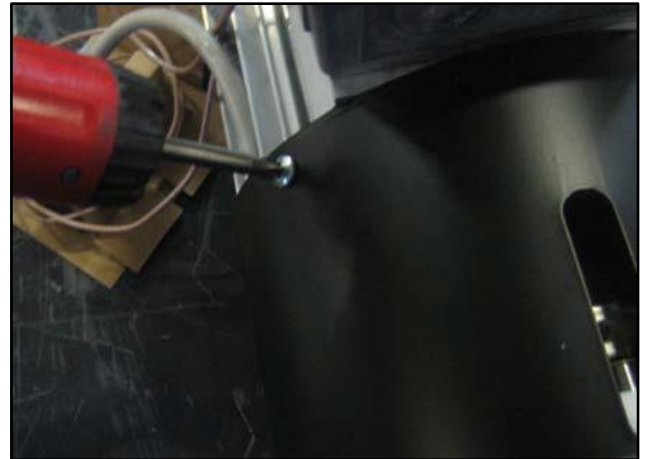
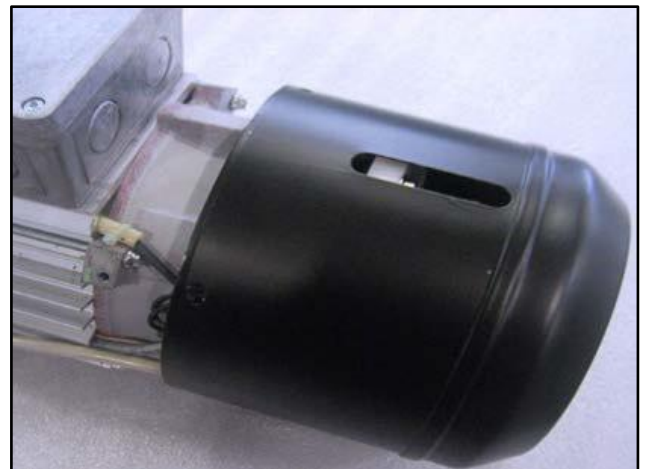

Figure 94
Figure 95
3. Remove the screws holding the brake cover on the motor and remove the brake cover. (See Figure 94 & Figure 95)